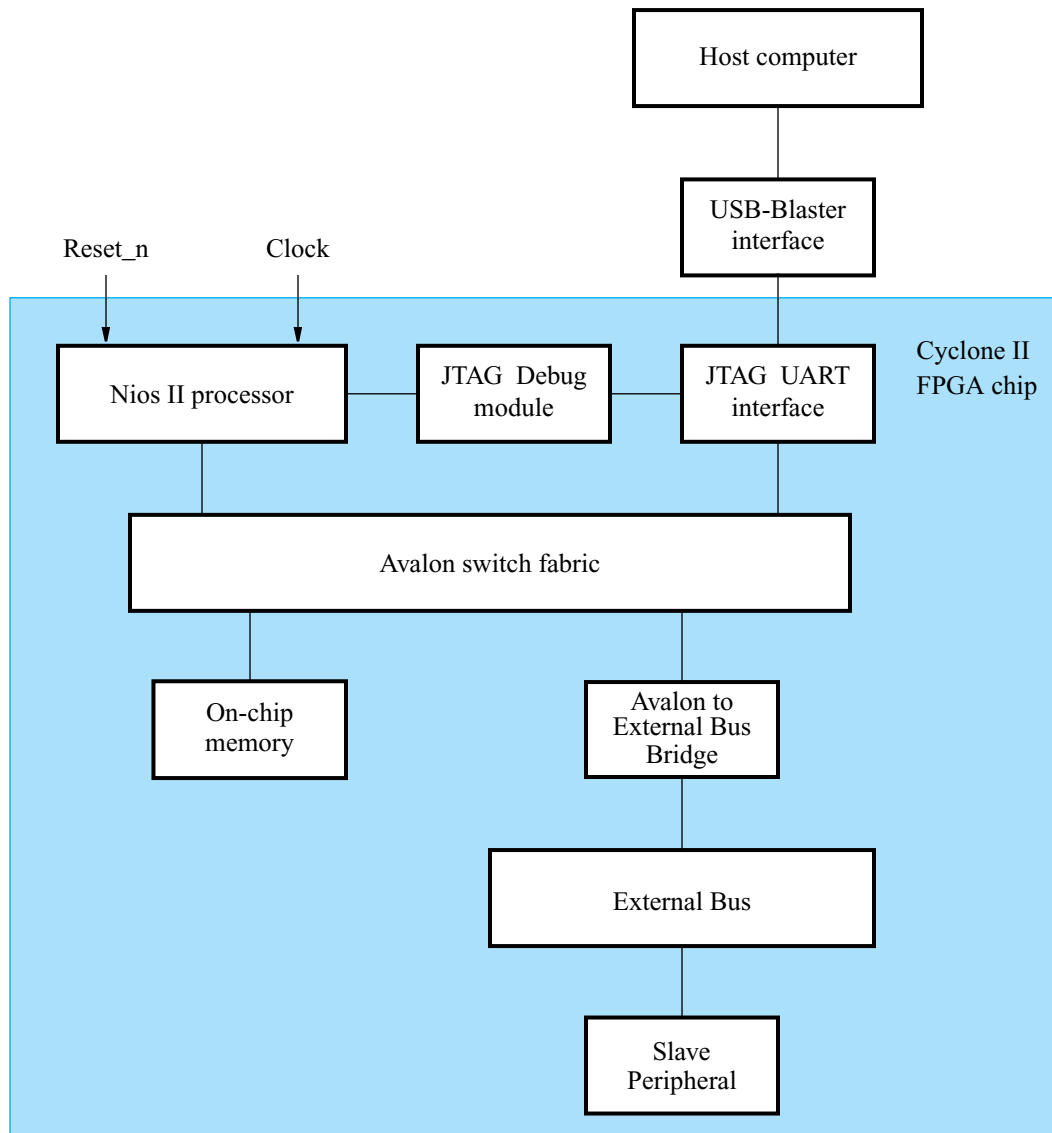
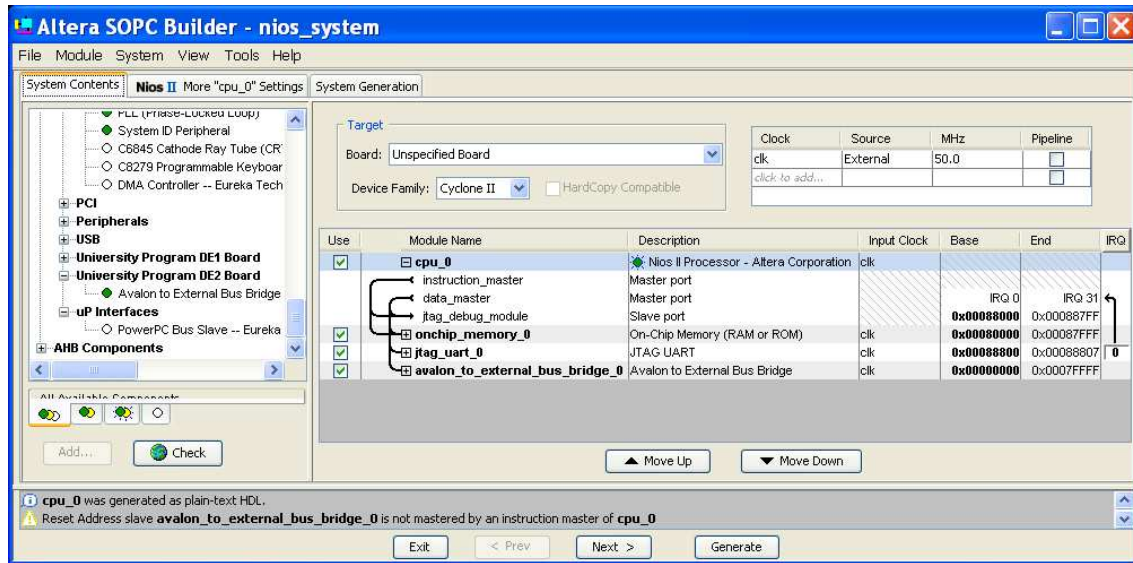

Figure 2. The desired Nios II system
Figure 3. The Nios II system specified in the SOPC Builder.
Figure 2 indicates the system that we wish to design and implement. The part of the system that consists of a Nios II/s processor, a JTAG UART, an on-chip memory block and an Avalon to External Bus Bridge can be generated using the SOPC Builder. This should produce the system given in Figure 3. The slave peripheral will be a Verilog/VHDL module which you will design. The Avalon to External Bus Bridge connects the previously discussed external bus to the Avalon Switch Fabric of the Nios II system. The switch fabric is the main interconnection network for peripherals in a system generated by the SOPC Builder.
Once the system in Figure 3 has been generated, modify the Verilog/VHDL module, `Peripheral_on_External_Bus` to connect it to the `Avalon to External Bus Bridge` signals. Also, modify this module such that it contains four
16-bit registers. Each of these registers should be mapped to one quarter of the address space assigned to the Avalon to External Bus Bridge by the SOPC Builder. Use the 7-segment displays *HEX3 – 0* to display the contents of these registers. Since only one register can be displayed at one time on the 7-segment displays, use two toggle switches, *SW₁* and *SW₀*, to choose which register to display. These modules, in addition to the modules generated by the SOPC Builder, should implement the desired system in Figure 2.
4. From the **System** menu, select **Auto-Assign Base Addresses**. You should now have the system shown in Figure 3.
1. Create a new project called *Lab5_Part2*. Use the same SOPC Builder project settings as in Part 1 of this exercise, and generate a Nios II system that corresponds to Figure 3.
2. Use the SOPC Builder to generate the system in Figure 3, but choose the address range of 1024 Kbytes for the Avalon to External Bus Bridge component. Note that this will change the base addresses that the SOPC Builder will auto-assign to the components of the system.